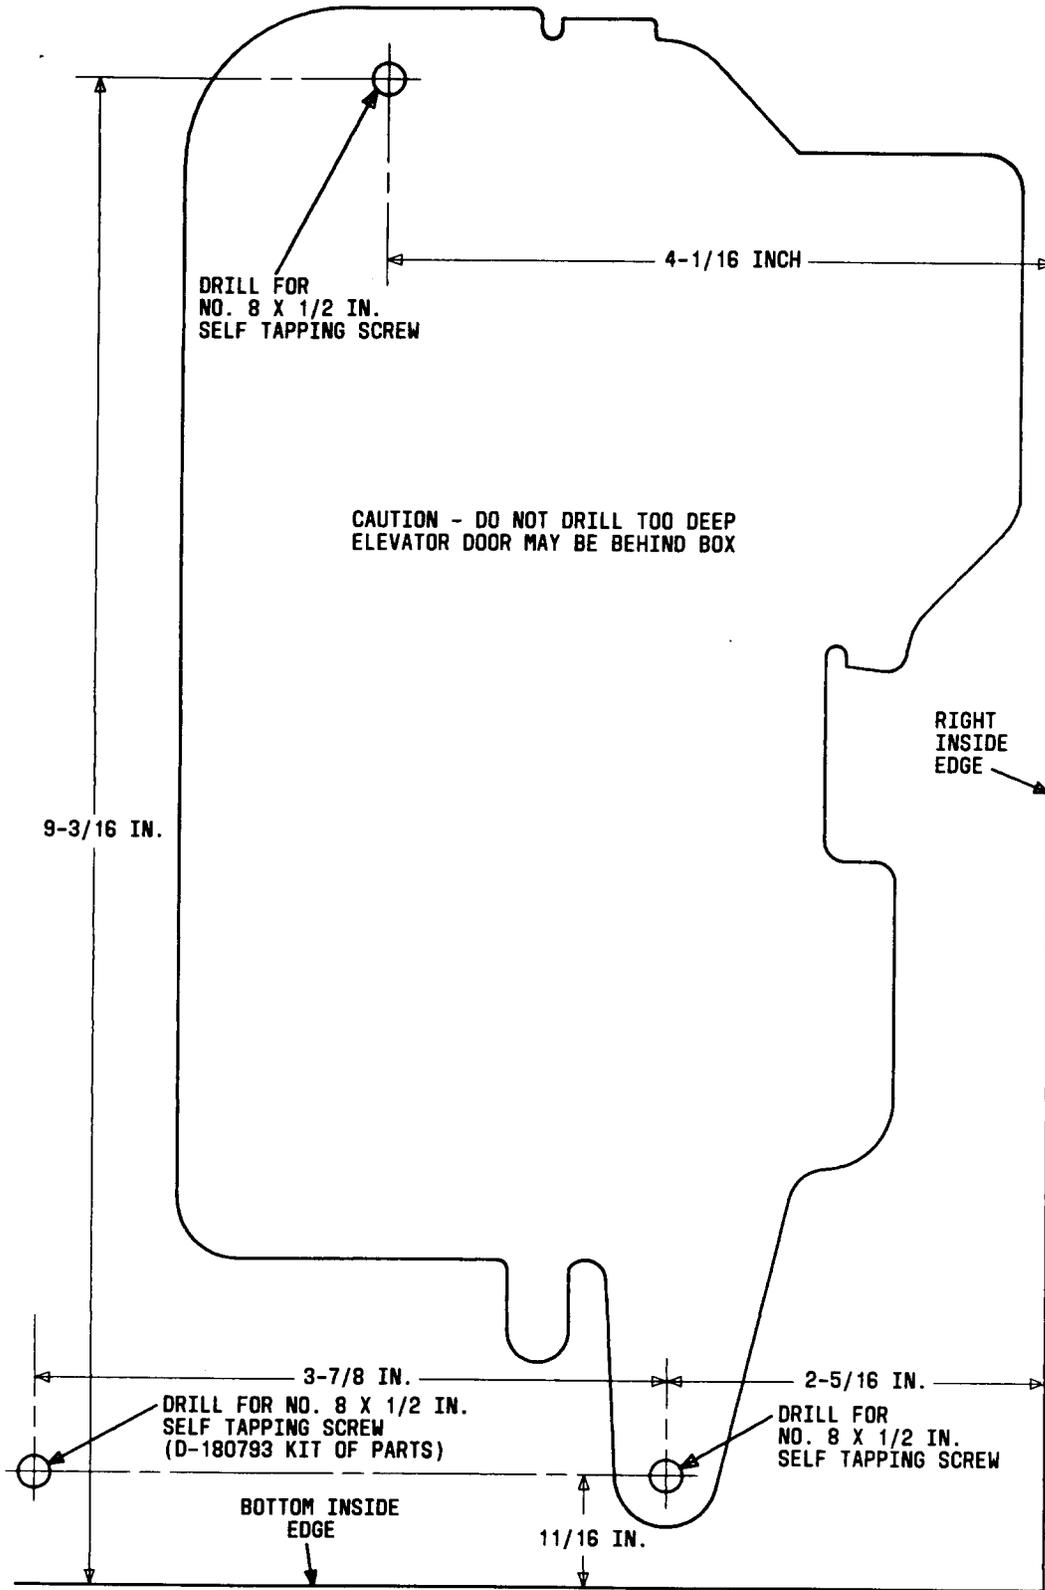

Fig. 6—Outlet Box Mounting Hole Drilling Information
- 1.02** The reason for reissuing this section is to change Fig. 6. Revision arrows are used to emphasize the more significant changes.
If the customer supplies the outlet box, the mounting hole information should be provided (Fig. 6).
3.09 An outlet box is not required where recess in wall of a building meets the minimum size, and the back surface is of wood 3/4-inch thick so that the mounting plate assembly and kit of parts may be attached to it with three No. 8, 1-inch pan head or flathead tapping screws. Inside minimum dimensions should be 6-7/8 inches wide, 9-7/8 inches high, and 2-7/8 inches deep. Refer to Fig. 6 for location of mounting holes of the mounting plate assembly, and D-kit of parts.